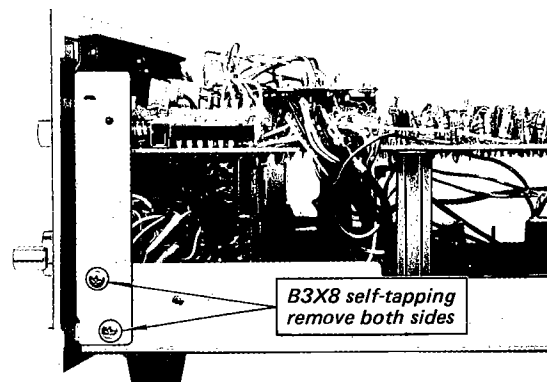

Fig. 2-7. Front subchassis removal
1. Remove the two screws at front bottom (See Fig. 2-1), and two screws at each side of the chassis as shown in Fig. 2-7.